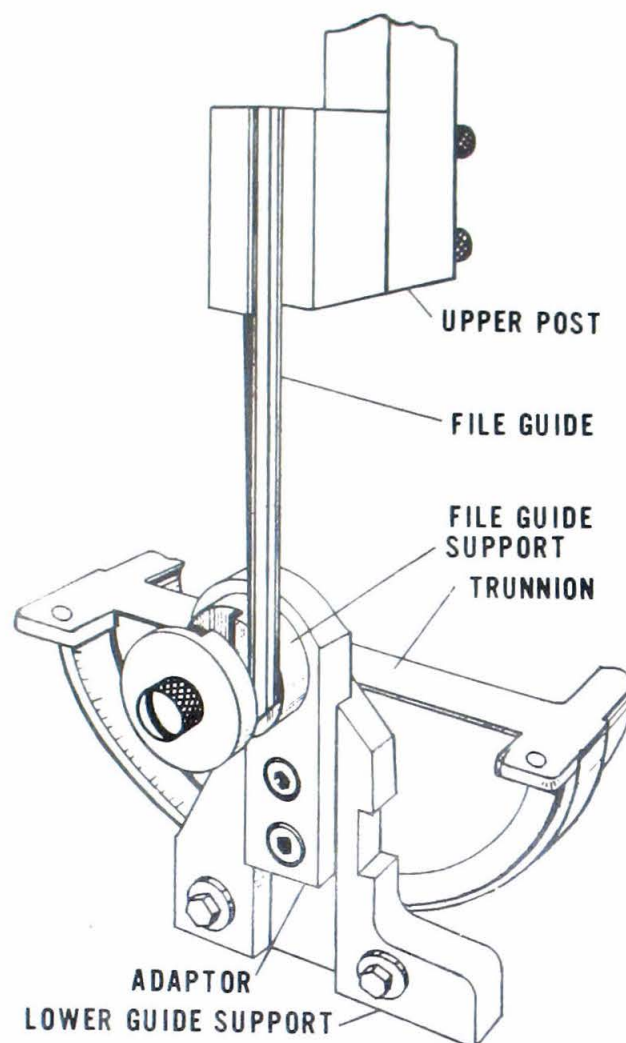

Figure 24
2. Mount file guide support, as shown in Fig. 24, on the lower post block. There are three different width slots to properly support the different guides. Be sure the proper slot is turned to hold the guide being used.